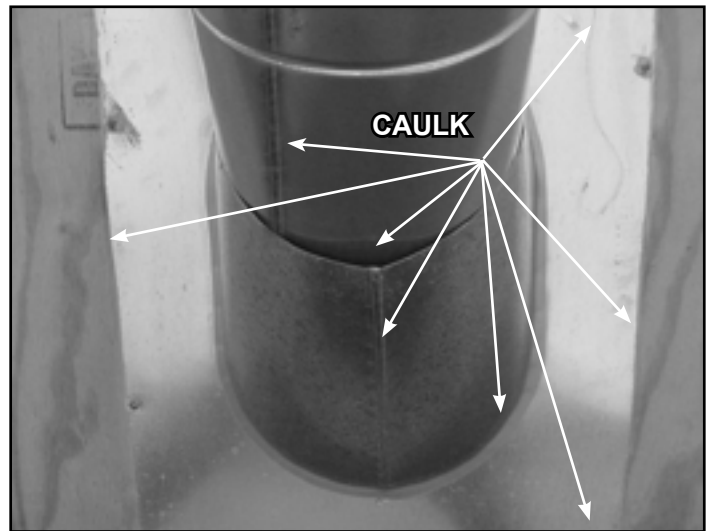

Figure 7.12
- Slide the roof flashing over the pipe sections extending through the roof as shown in Figure 7.12.
- Caulk the perimeter of the flashing where it contacts the roof surface. See Figure 7.12.